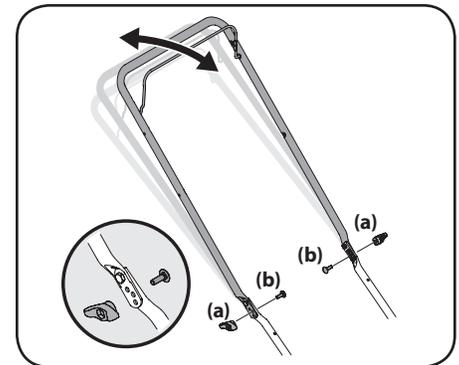

Figure 2-12
1. Remove wing nuts (a) and carriage bolts (b) from handle. See Figure 2-12.
2. Position the handle in one of the three positions that is most comfortable. See Figure 2-12 inset.